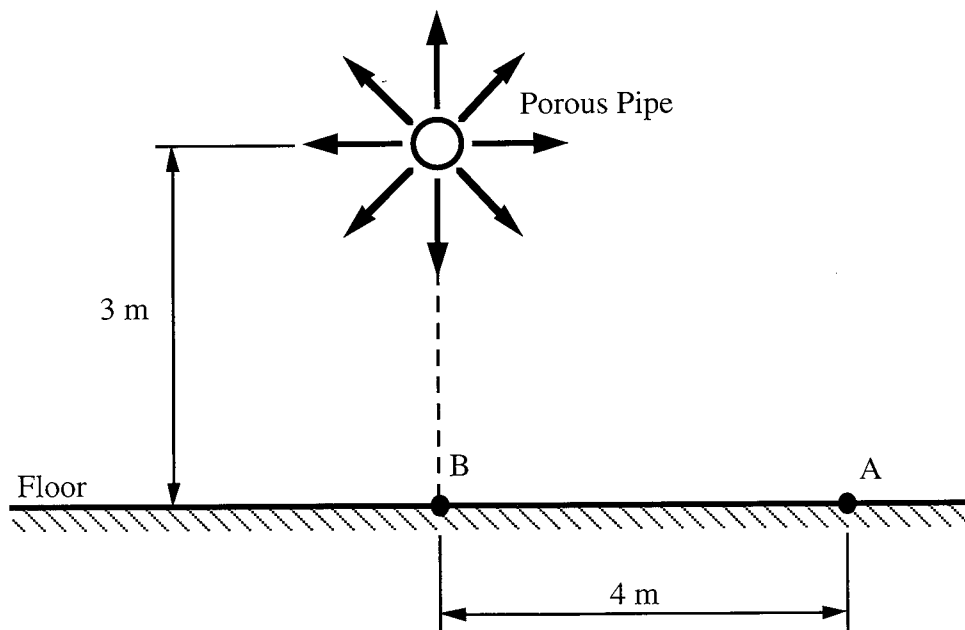

Figure 4.
(b) A long porous pipe runs parallel to the horizontal floor of a factory building as shown in Figure 4 below. (The longitudinal axis of the pipe is perpendicular to the plane of the paper.) The pipe is located 3 metres above the factory floor. Air flows radially from the pipe at a rate of $\pi \text{ m}^3/\text{s}$ per metre of pipe length.
- (iv) Determine the velocity at point A in Figure 4.